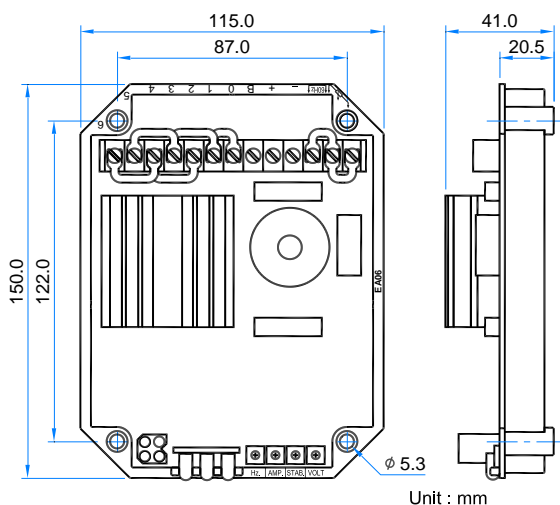

Figure 1 Outline Drawing
1. AVR can be mounted directly on the engine, genset, switchgear, control panel, or any position that will not affects operation. For dimension reference, please see Figure 1.